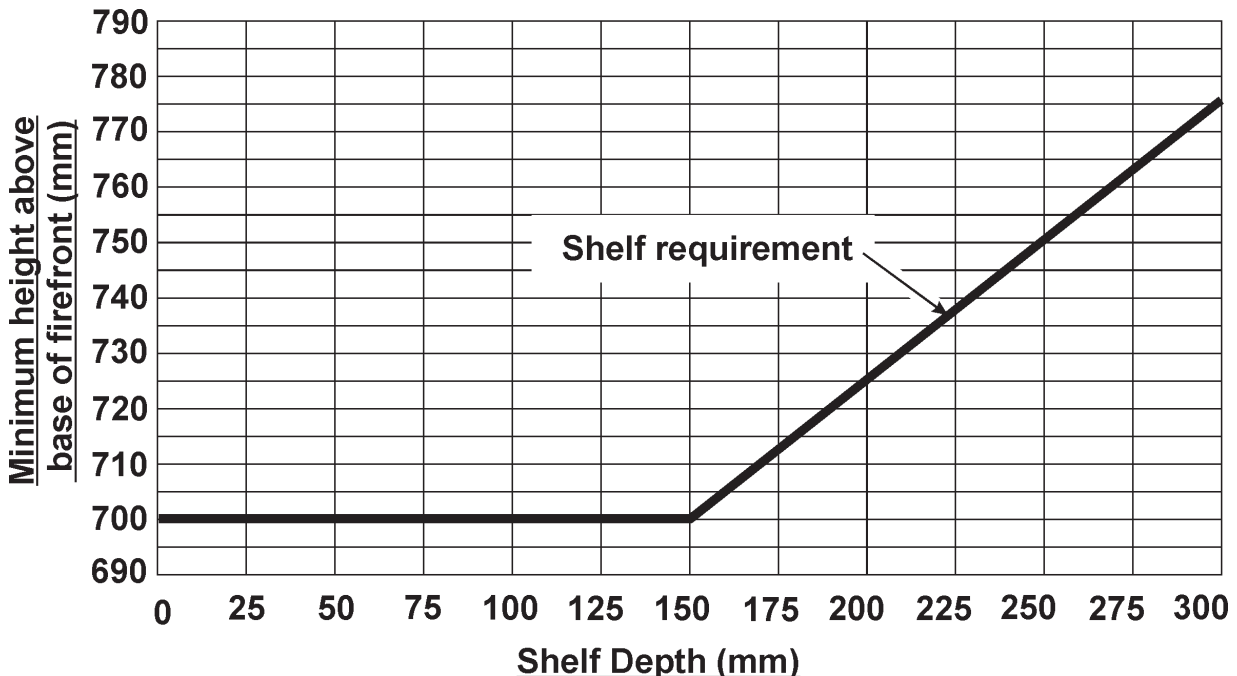

Figure 5. Combustible shelf clearances
- For a shelf deeper than 150mm: 700mm + 12.5mm for every 25mm depth over 150mm (See Figure 5).